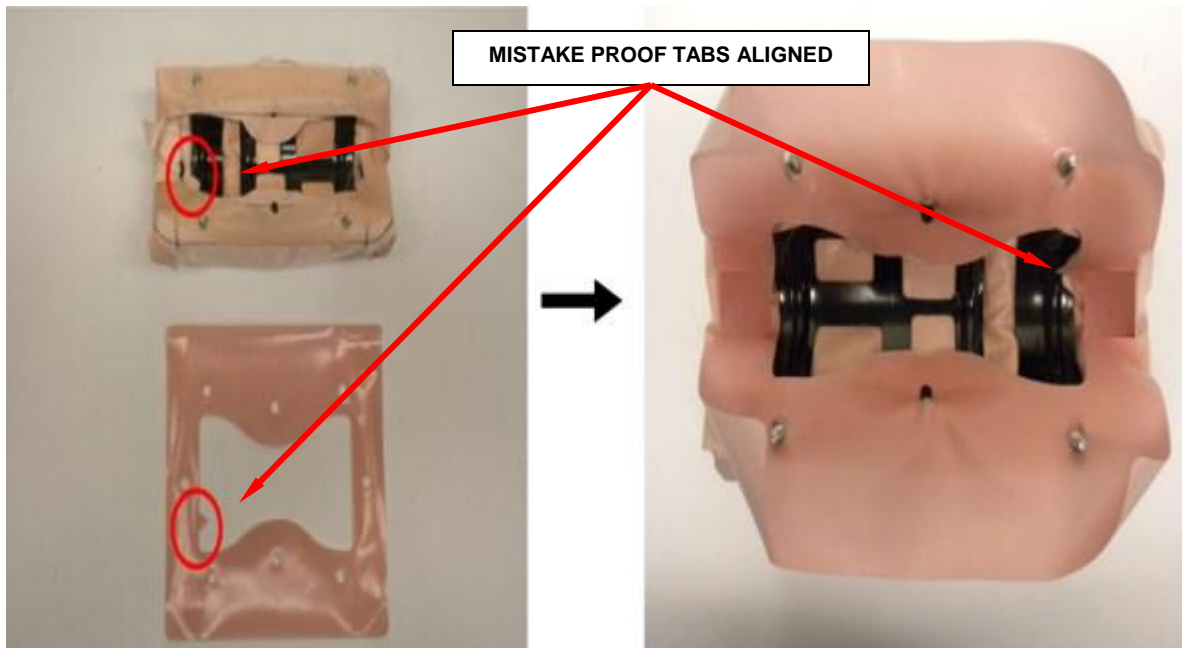

Figure 39 - Fabric Gasket to Cushion (Glossy Side Up)
- h. Place the fabric gasket, glossy side up, onto cushion. Mistake-proof tab should be aligned to the tab on the cushion (Figure 39).